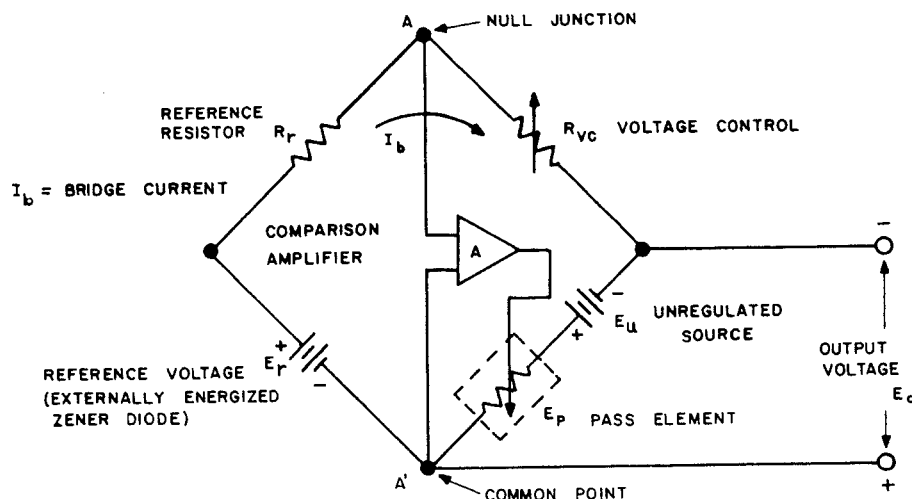

FIG. 3-4 KEPKO POWER SUPPLY AND COMPARISON BRIDGE CIRCUIT.
- 3-8 **GENERAL.** A few general remarks may be in order to familiarize the user of this equipment with the terminology and basic equations pertaining to remote programming of the Kepco PAT Power Supplies. Electrically, the power supply consists of the unregulated d-c source (E_U), the pass element (E_P), the d-c error amplifier (A), and a comparison circuit which resembles a 4-arm electrical bridge. (Refer to FIG. 3-4.) The elements of the bridge are arranged to produce a virtual zero at the amplifier input when the bridge circuit is at balance ($V_{AA'} = 0$). Any tendency for the output voltage to change in relation to the reference voltage (E_r) creates an error signal which, by means of negative feedback and the amplifier, tends to correct the output voltage towards restoration of bridge balance.